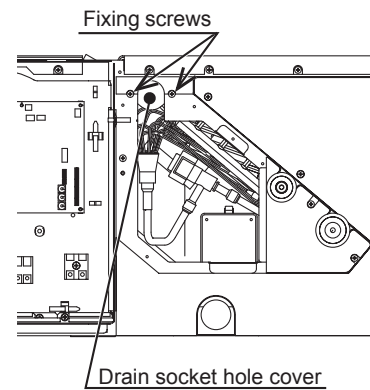

Fig. 3-3
- (3) Remove the fixing screws (2 locations) shown in Fig. 3-3, and remove the Drain socket hole cover.